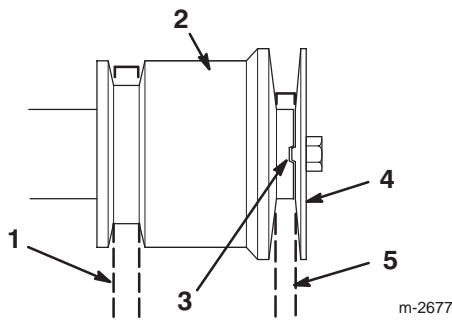

Figure 27
Note: Do not to pinch the traction drive belt (Fig. 27).
15. Install the engine pulley sheave, ensuring that the indexing rib in the engine pulley sheave aligns with the indexing notch in the engine pulley (Fig. 27).
16. Install the washer, lock washer, and crankshaft bolt that secures the engine pulley sheave (Fig. 27).
- Note:** Do not pinch the auger/impeller drive belt (Fig. 27).
Note: Ensure that the indexing rib in the engine pulley sheave aligns with the indexing notch in the center engine pulley. Do not pinch the belt (Fig. 27).